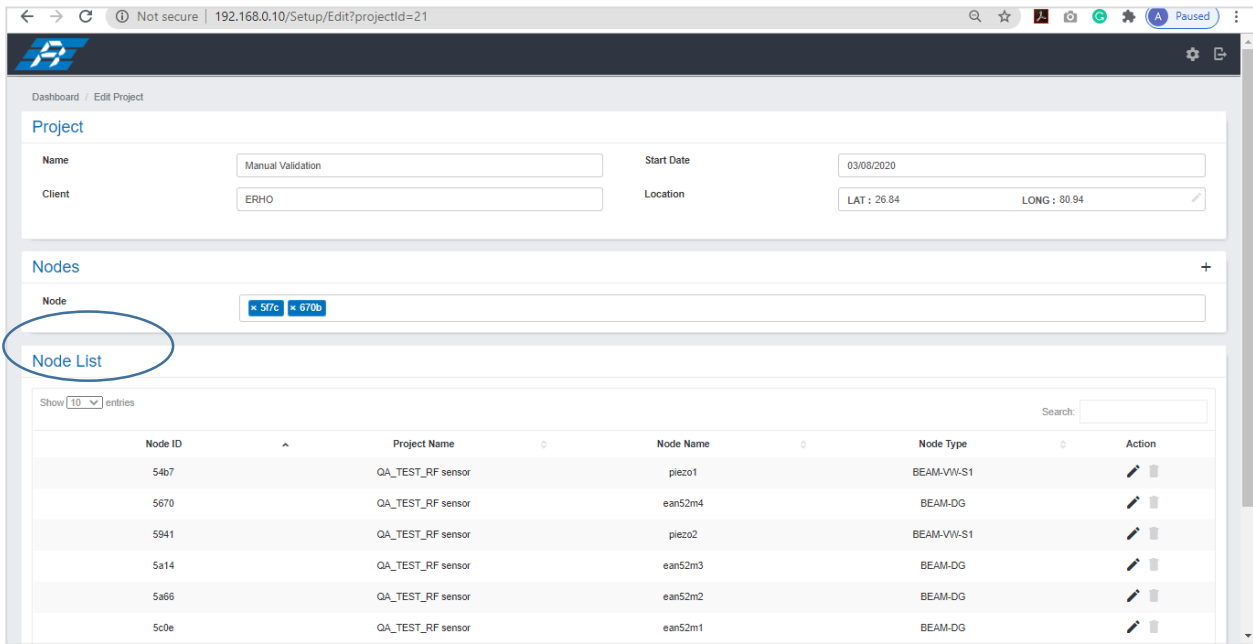

Figure 3-18
4. The information on nodes added can be checked under “Nodes list” section (Refer to figure 3-18).